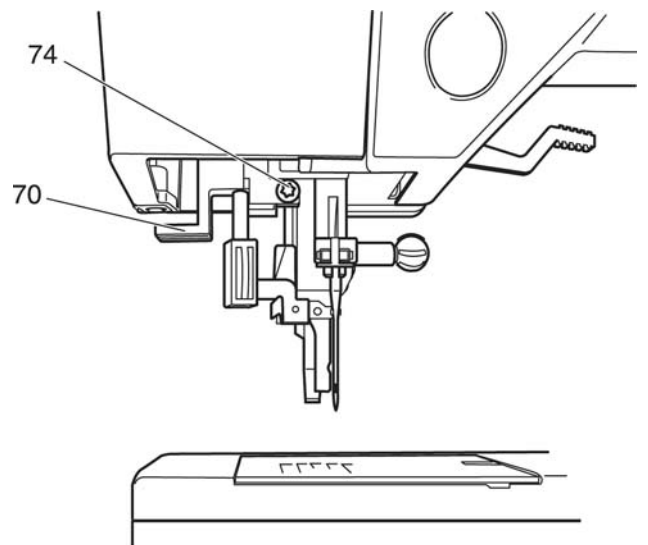

Fig. 19b
- Loosen screw 74 by just 1/8 of a turn (fig. 19b).